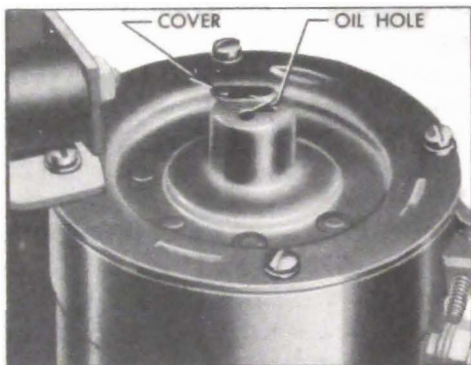

Figure 1-13—Power Unit Motor
5. *Hydro-Lectric Power Unit Motor (When Installed)*. Swing the oil hole cover aside on upper end of motor and lubricate upper bearing with a few drops of engine oil. See figure 1-13.